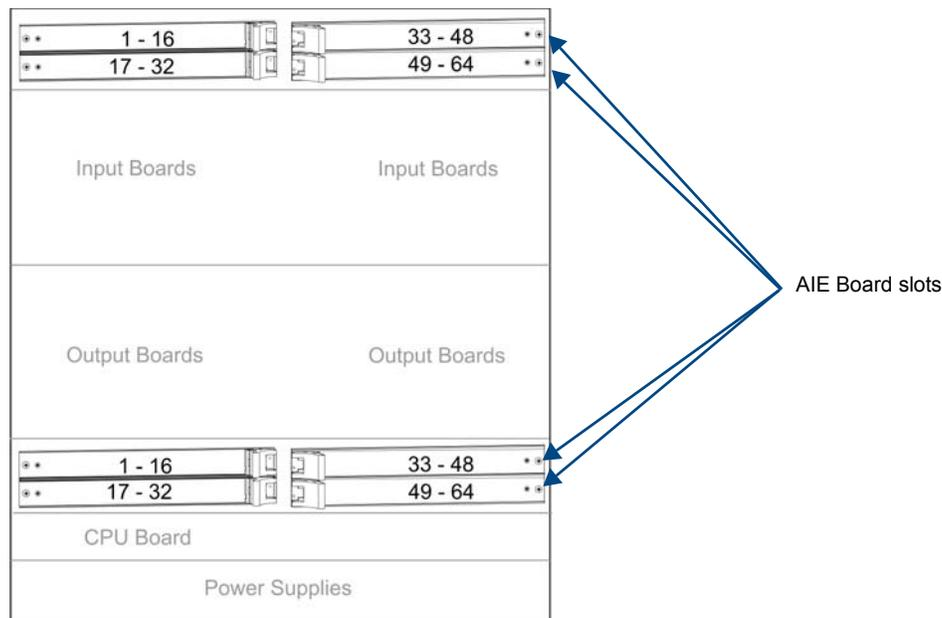

FIG. 79 AIE Board slot numbering on Enova DGX 64
1. Check the numbering on the overlay to determine which board it applies to (see numbering in FIG. 79 on the next page).